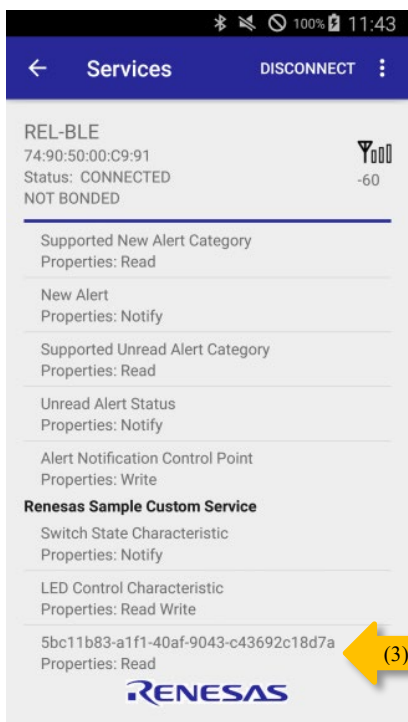

Figure 3
5. (Figure 3 - Arrow (3)) Tap the added characteristic [UUID:5bc11b83-40af-9043-c43692c18d7a] to display the characteristic screen.